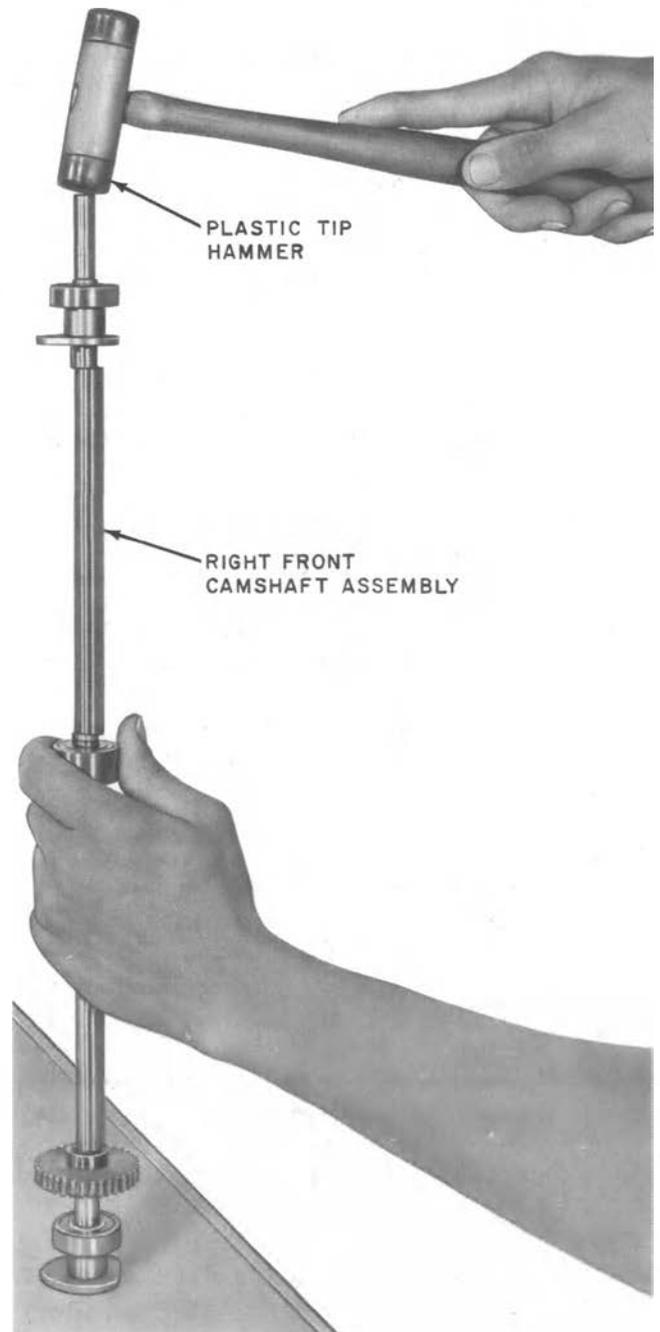

Fig. 57—Assembling Right Front Camshaft to Left Front Camshaft (Later Arrangement)
- (53) If the front and rear camshafts are not coupled by the later yoke assembly arrangement, proceed as follows.
- (a) Position the camshaft assemblies vertically, and locate the hand around the center bearing as shown in Fig. 57.